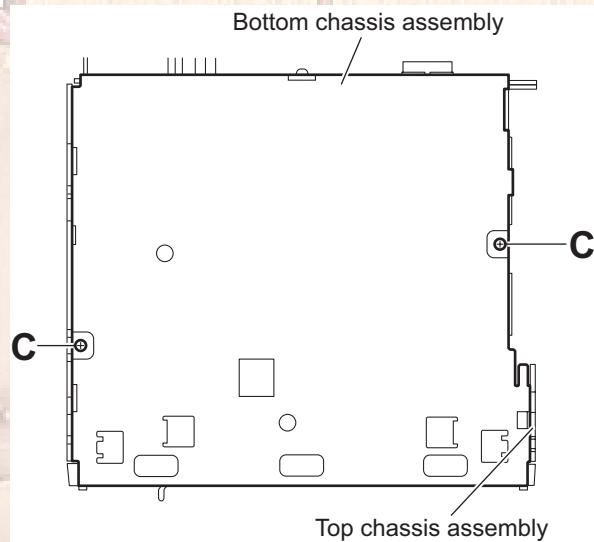

Fig.3
3.1.3 Removing the top chassis assembly (See Figs.3 to 6)
- (1) From the bottom side of the main body, remove the two screws **C** attaching the top chassis assembly to the bottom chassis assembly. (See Fig.3)
3.2.2 Removing the connector board (See Figs.3 to 5)